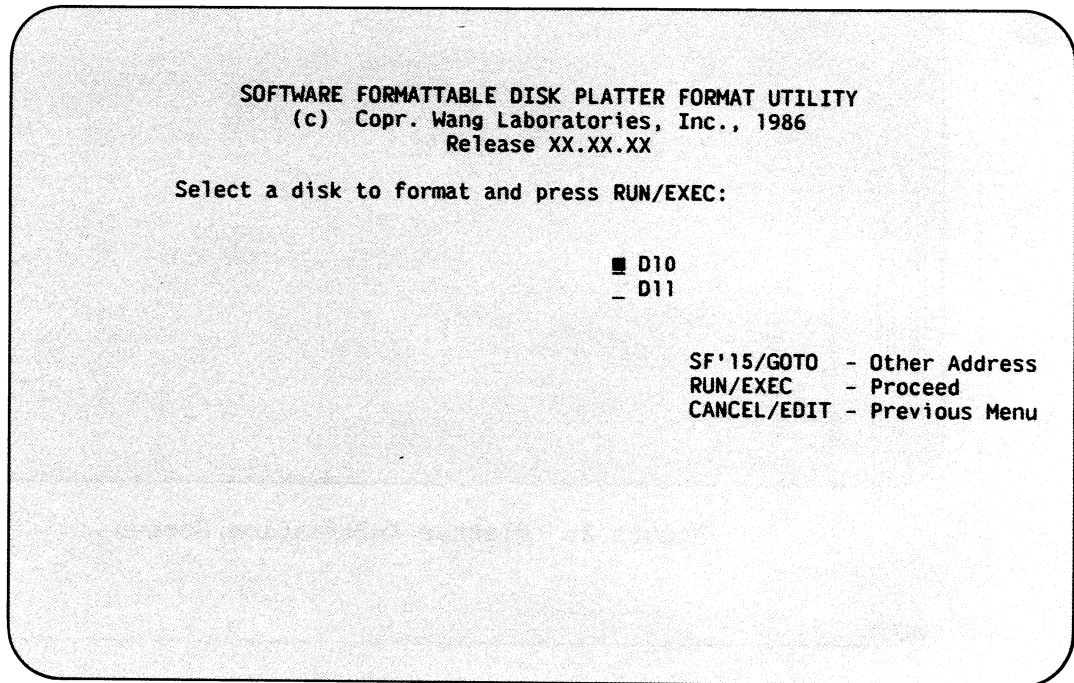

Figure 1. Disk Address Screen
1. From the System Utilities menu, select Format Disk Platter and press EXEC. The system displays the Disk Address Screen (refer to Figure 1). This screen lists the currently connected and powered-on drives that may be formatted.
3. Press RUN/EXEC to create the index or press CANCEL to return to the Disk Address screen (refer to Figure 1).